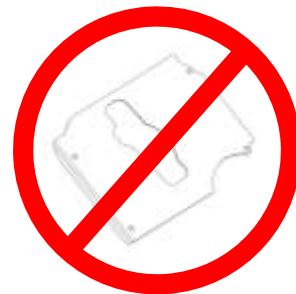

**Figure 5**
3. Install the new Holley® oil pump pickup screen assembly ensuring that oil pump pickup screen tube is pushed completely into the oil pump before tightening the bolts (**Figure 5**). Do not allow the bolts to pull the tube into the pump. Attach using the two M6 x 16mm long flanged socket head cap screws included in the installation parts kit.